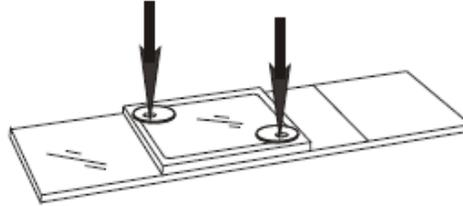

Figure 6
2. Apply finger pressure to both tabs simultaneously for approximately five seconds to ensure a secure seal (Figure 6).